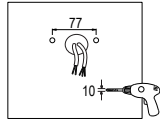

Figure 25
5. Yoke Mounting (YM)
Step 1: Drill holes in the wall as shown (Figure 25).